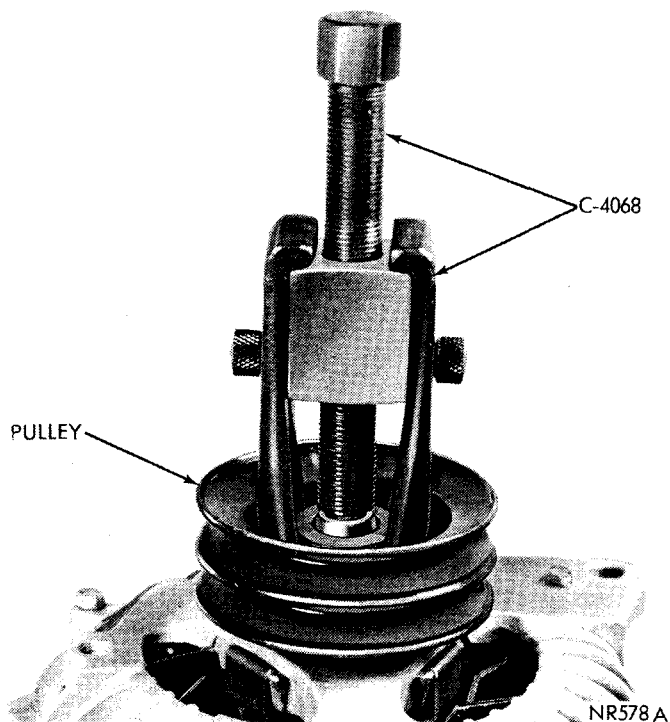

Fig. 22—Removing Pulley
- (1) The pulley is an interference fit on rotor shaft. Remove pulley with Puller Tool C-4068 (Fig. 22).